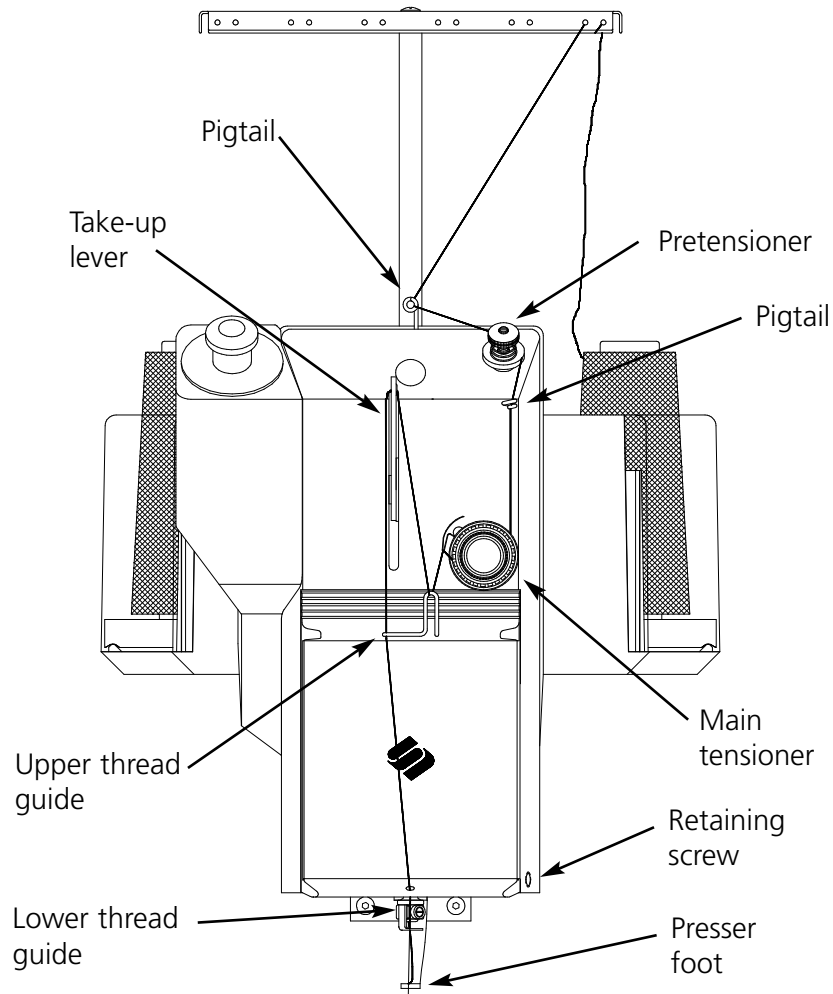

Figure 2-5
7. Route the thread through the second pigtail and down to the main tensioner (see Figure 2-5). Wrap the thread around the main tensioner disk clockwise 1½ times.